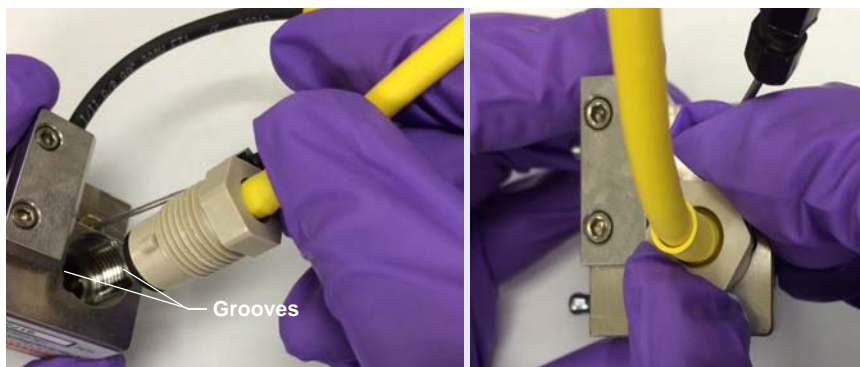

Figure B-15. *Inserting the PdH Reference Electrode Fitting into the Reference Electrode Well*
4. Align the fitting on the end of the PdH reference electrode so that the knobs on the fitting align with the grooves in the reference electrode well (P/N 072044) (see Figure B-15), and then insert the fitting into the well.